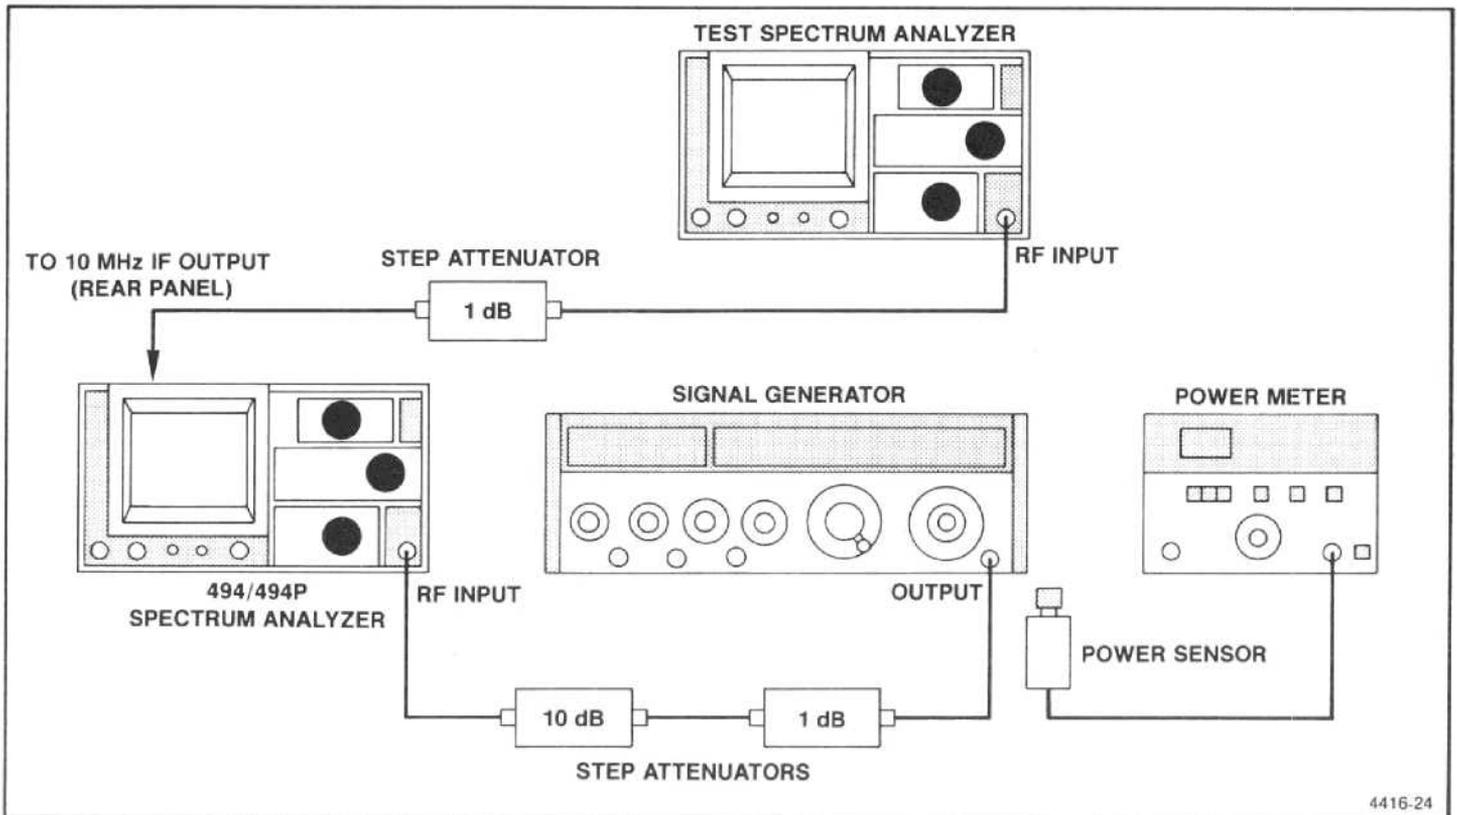

Figure 4-18. Test equipment setup for checking 1 dB input compression point.
a. Equipment setup is shown in Figure 4-18.